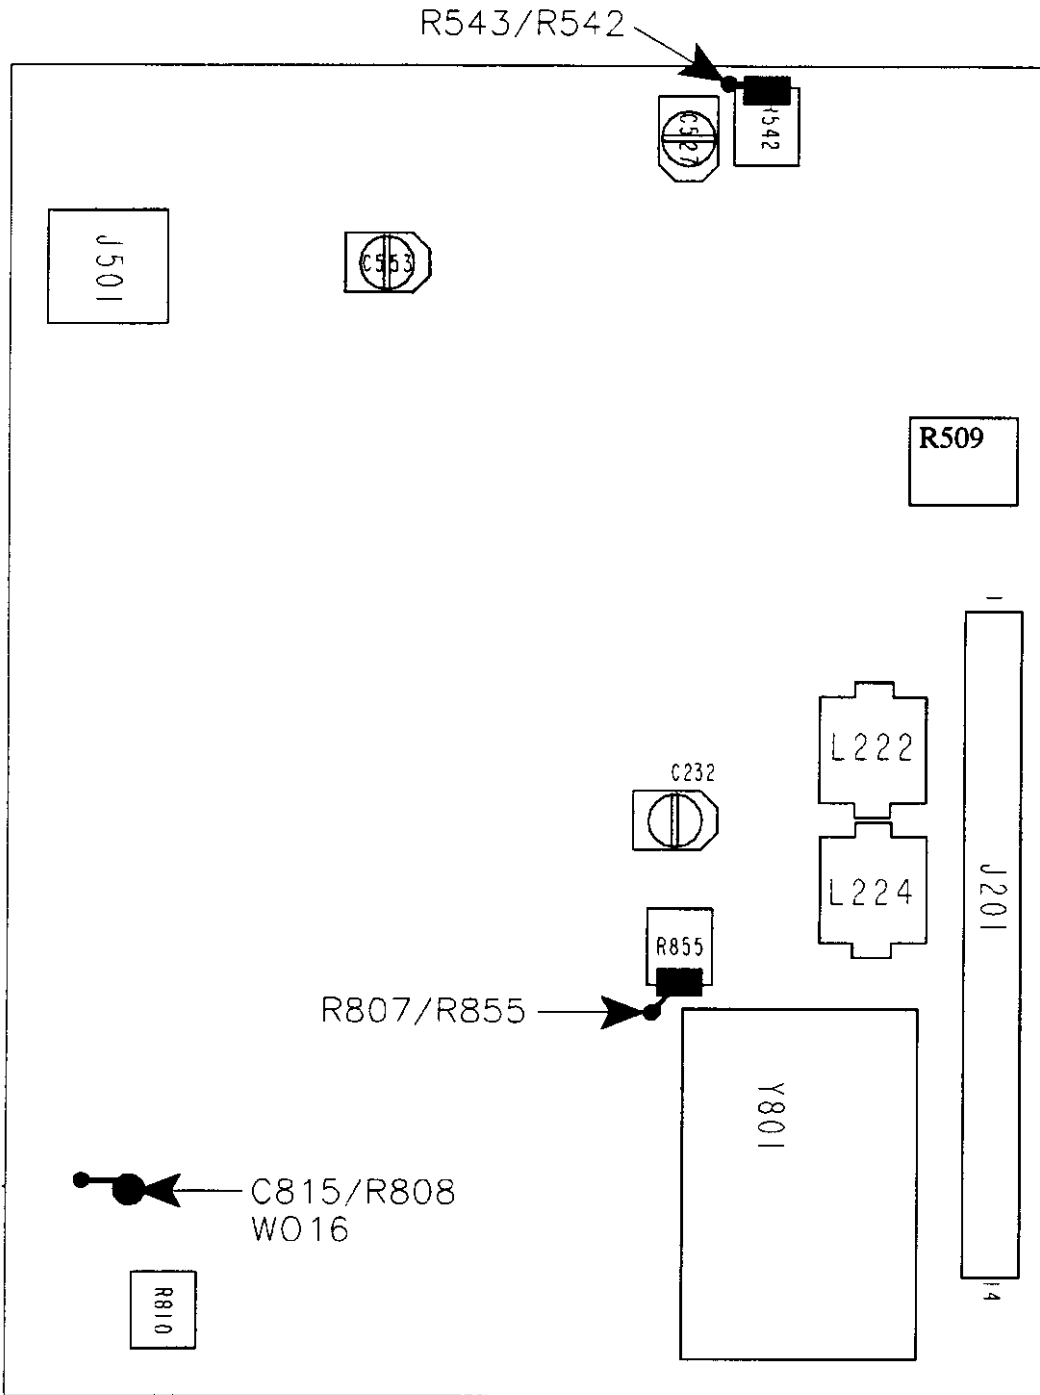

Figure 6-3 ALIGNMENT POINTS DIAGRAM
Receiver or transmitter alignment may be necessary if repairs are made that could affect tuning. Alignment points diagrams are located in Figure 6-3 or component layouts are located in Section 8.
3. Connect a DC voltmeter at the junction of R808/C815 to measure the VCO control line voltage for a meter reading of ≥ 0.50 - ≤ 4.90 V DC (see Figure 6-3).